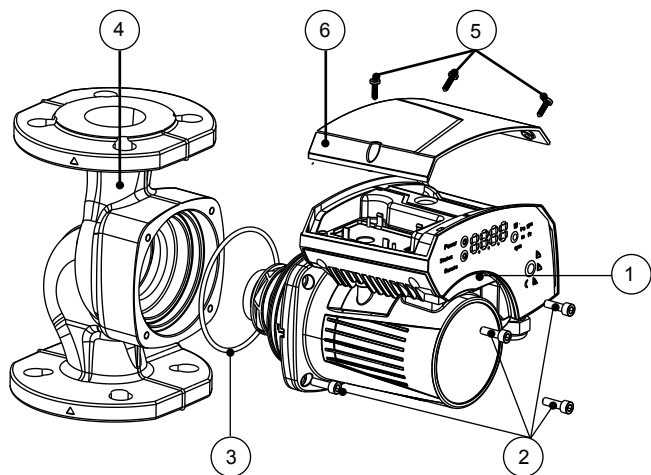

Figure 2: Change the position of the pump head
1. Open the terminal box cover removing the screws (5). Refer to figure 2 on page 7. Use control screwdriver described under section 4.2 to access terminal blocks.